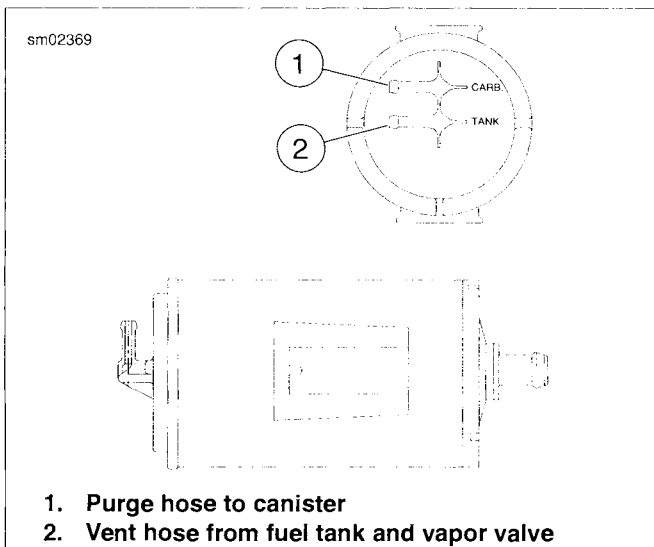

Figure 4-61. Charcoal Canister Connections
5. See Figure 4-61. Note the two hose connections on the left side of the canister. To verify correct assembly, mark the hose to match the stamps on the canister. After hoses are marked, gently pull hoses off the canister.
2. See Figure 4-61. Attach hoses to left side canister nipples as marked.
- c. See Figure 4-61. Attach the purge hose to the canister fitting marked CARB on left side of canister.
- c. See Figure 4-61. Connect hose attached to bottom end of vapor valve to fitting marked TANK on left side of canister.